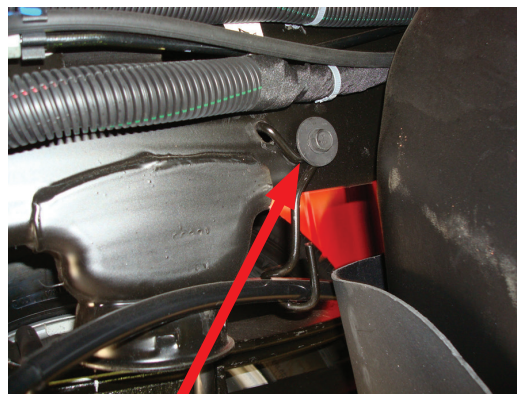

fig. 4
3. Remove the bolt that holds the emergency bracket to the inside of the driver's (left) side frame rail (Figs. 4 & 5).